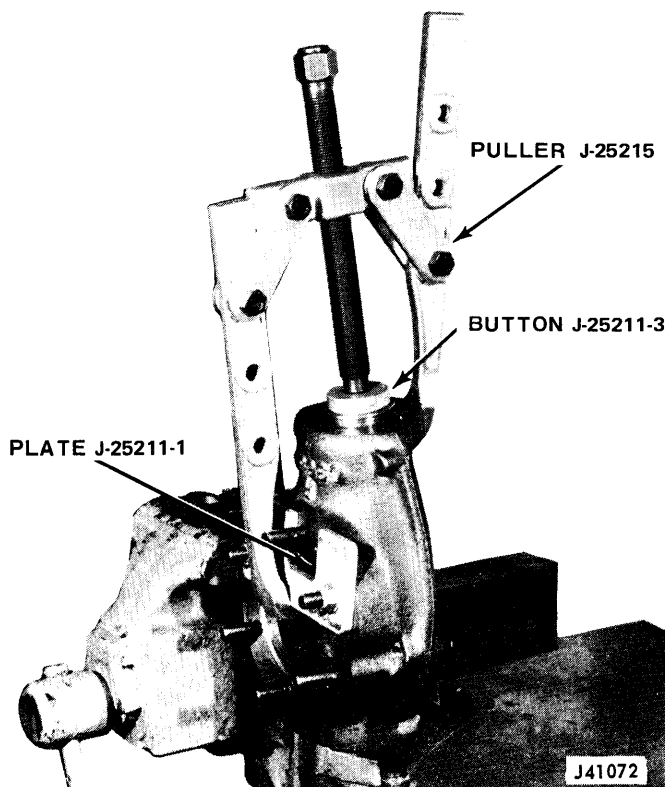

Fig. 10-7 Lower Ball Stud Removal
- (1) Remove lower ball stud snap ring.
- (2) Clamp knuckle assembly securely in vise with upper ball stud pointing downward.
- (3) Attach Plate J-25211-1 to spindle mating surface of knuckle assembly (fig. 10-7). Position Button J-25211-3 on lower joint. Assemble and align Puller J-25215. Tighten puller screw to press lower stud out of knuckle.